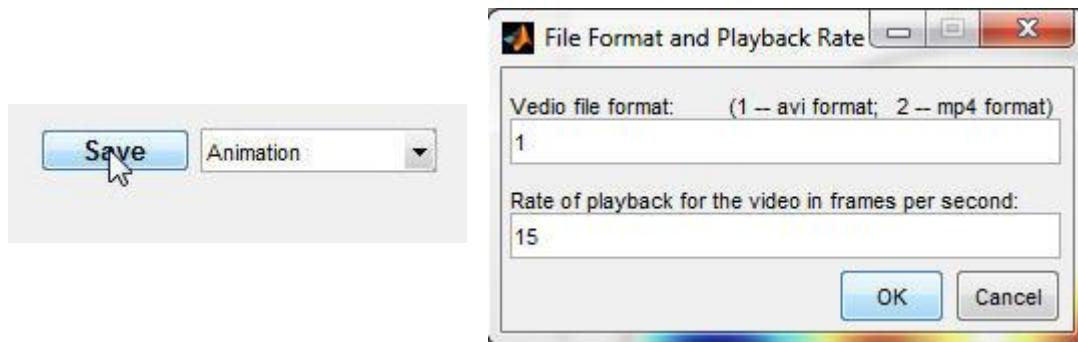

Figure 5-70. Specifying the saving animation format and the playback rate.
Step 2: Click the **Save** button to open a text field window for selecting an animation format and playback rate of the saving animation, type 1 (the animation will be saved in avi format) or 2 (saved in mp4 format) in upper text field, and type a value you desire as the rate of playback of the saving animation (in frames per second) in lower text field, as shown in Figure 5-70.